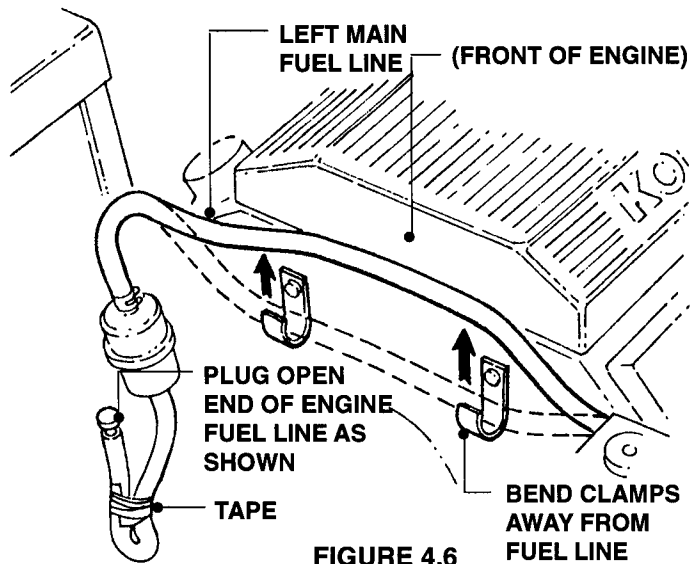

FIGURE 4.6
- G. Separate Left Main Fuel Line from front of Engine by bending Hose Clamps away from Line. See Figure 4.6.